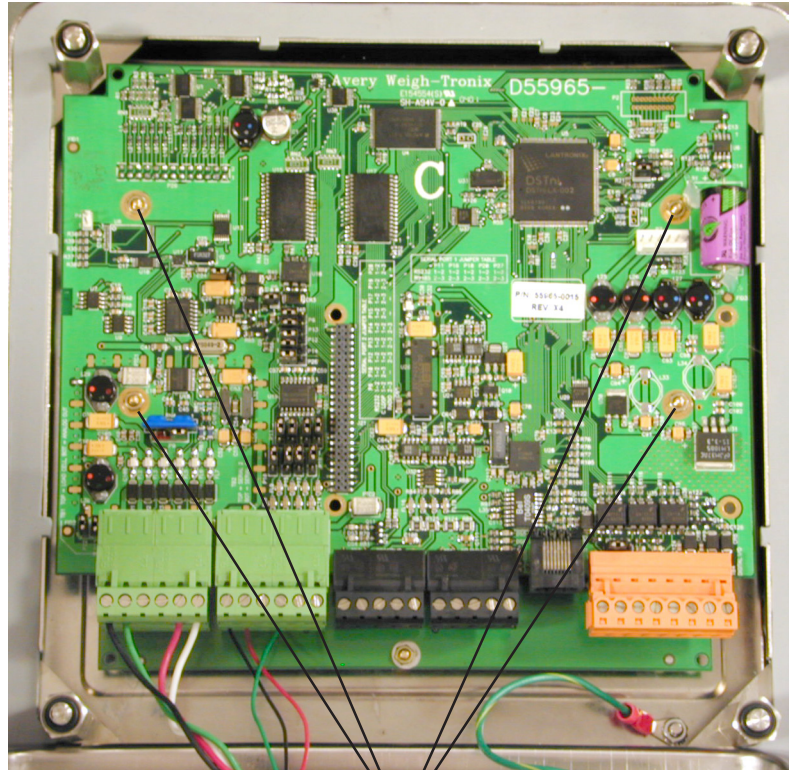

Figure 19
5. Remove the nuts shown in Figure 19 to remove the main PC board. The display board is located under this main board.